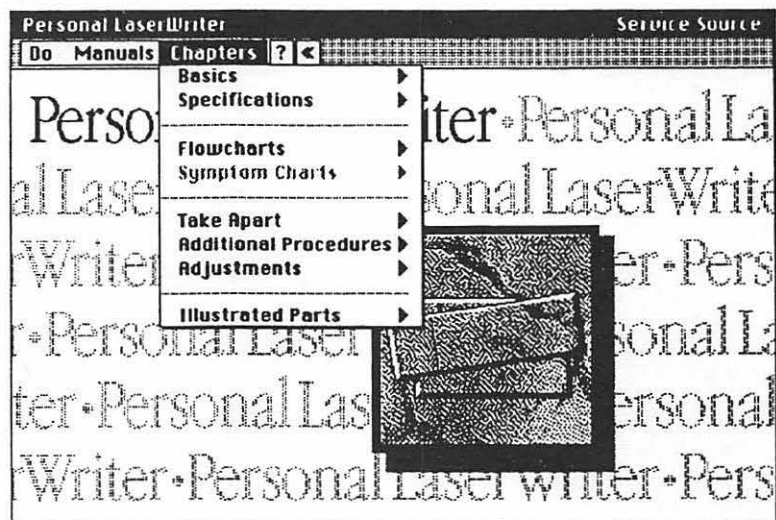

Figure 2-7
3. Pull down the Chapters menu, as Figure 2-7 shows. Choose **Specifications**.